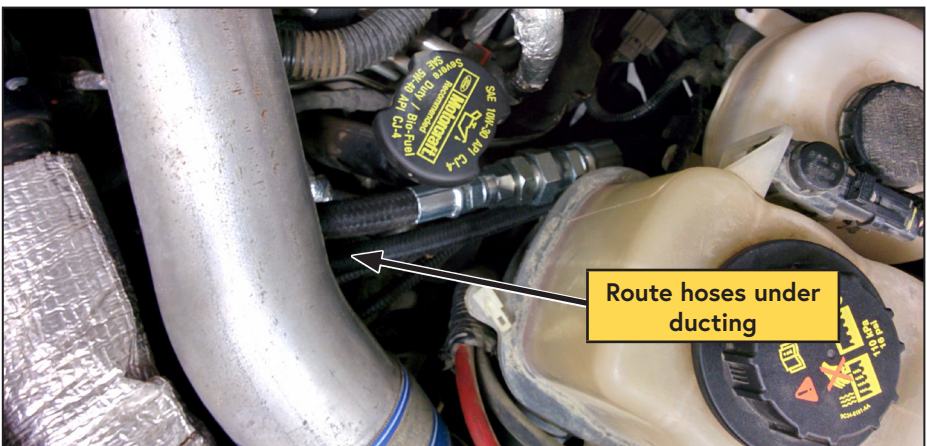

Figure 21 — VMAC hose routing
- Route the hoses and PTFE under the OEM Charge Air Cooler (CAC) tubing. Avoid the OEM vacuum lines, electrical harnesses, upper radiator hose, and the oil fill cap. The hoses should reappear near the coolant reservoir on the driver side of the engine bay (Figure 21).